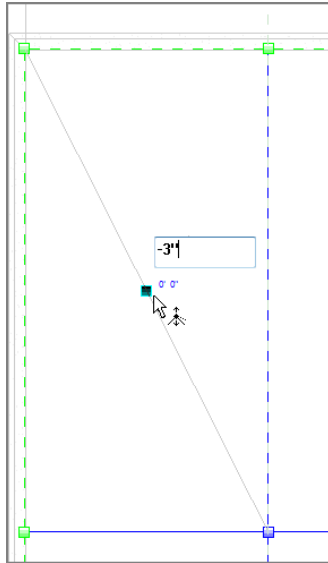

FIGURE 7.14: Click here to taper the roof to this point.
27. Pick the point you just added. A blue elevation appears, as shown in Figure 7.14. Click the elevation, and type **-3"** (-75mm).